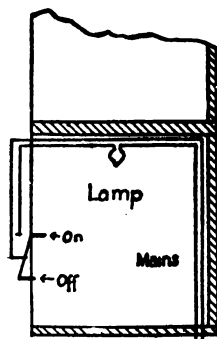

FIG. 233.—WALL SWITCH
**262. Control of Lights.** Sometimes it is an advantage to turn on the light from a switch on the wall instead of at the light itself. In that case one of the wires from the mains passes to the switch first and an extra wire passes from the switch to the lamp (Fig. 233). The key at the lamp is always left on.